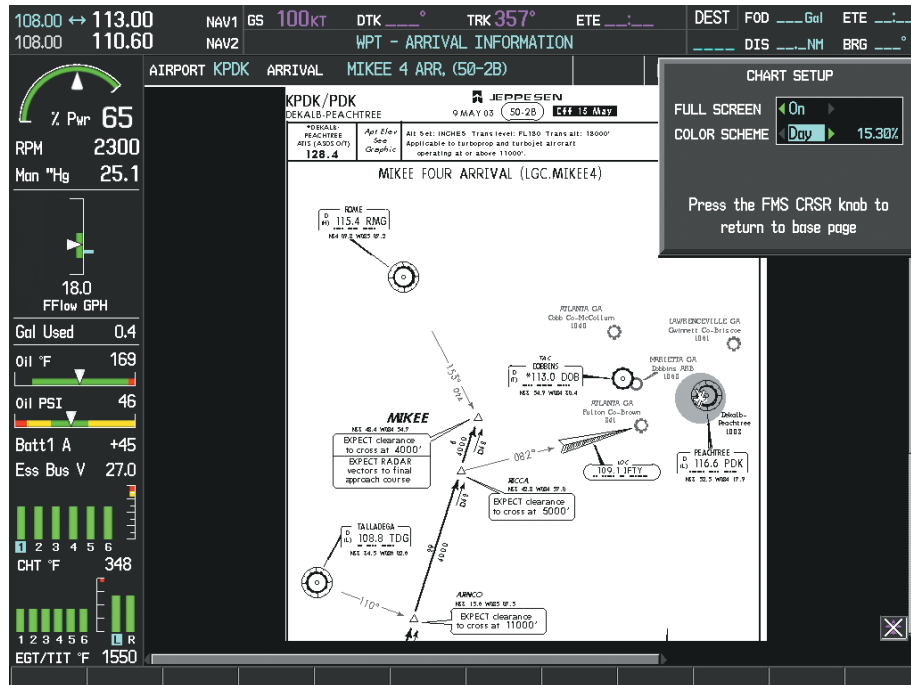

Figure 8-50 Arrival Information Page, Day View
- 3) Turn the large **FMS** Knob to move to the COLOR SCHEME Option (Figure 8-50).